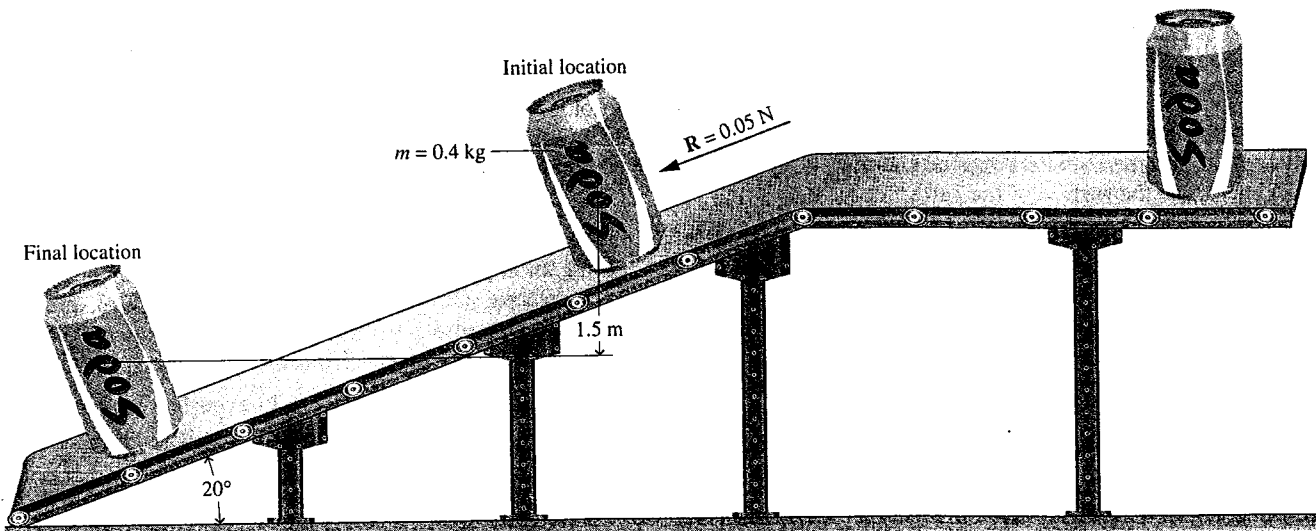

Fig. P2.15
2.15 During the packaging process, a can of soda of mass 0.4 kg moves down a surface inclined  $20^\circ$  relative to the horizontal, as shown in Fig. P2.15. The can is acted upon by a constant force  $\mathbf{R}$  parallel to the incline and by the force of gravity. The magnitude of the constant force  $\mathbf{R}$  is 0.05 N. Ignoring friction between the can and the inclined surface, determine the can's change in kinetic energy, in J, and whether it is *increasing* or *decreasing*. If friction between the can and the inclined surface were significant, what effect would that have on the value of the change in kinetic energy? Let  $g = 9.8 \text{ m/s}^2$ .